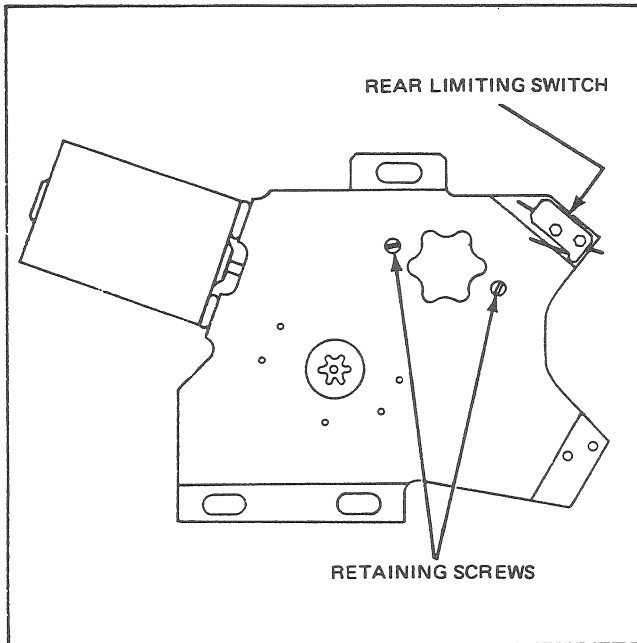

Fig. 12 – Article No. 116
13. From the front of the mounting plate, remove the two (2) screws retaining the manual override gearbox cover and remove the cover (Fig. 12).